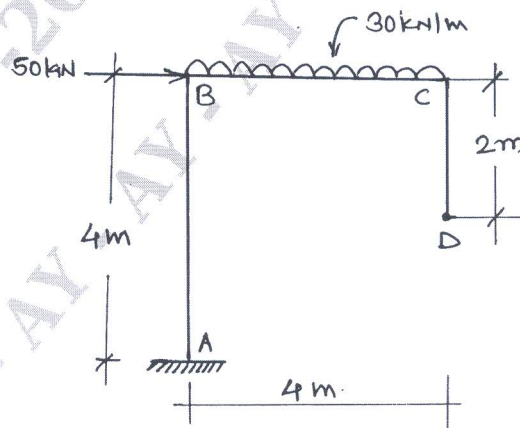

Fig.Q7(a)
- 7 Determine the vertical and horizontal displacement at the free end 'D' in the Fig.Q7(a). Take $EI = 12 \times 10^{13}\text{N-mm}^2$. Use Castigliano's theorem.